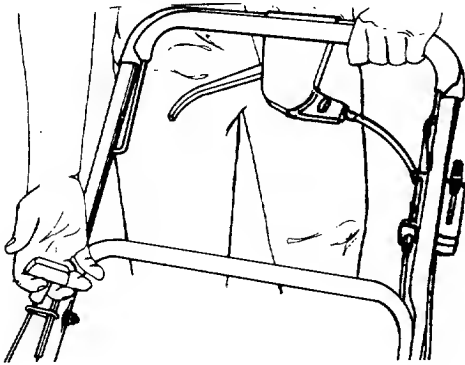

FIGURE 20.
3. Standing behind the unit, depress the blade control handle and hold it against the upper handle as shown. See figure 20.